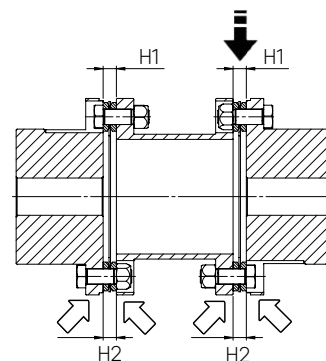

Figure 5
4.1.7. Check once again the alignment by measuring the max. value H1 and the min. value H2 of the distance between the hub flange and the spacer flange (see fig. 5). See tabulation 1 for the permissible values.